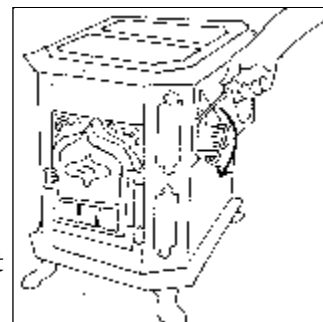

Figure 1: Open bypass by lowering lever with the black knob
1. Open the catalytic bypass damper by pushing the lever with the black knob all the way down. This will open the bypass door. (Fig. 1)